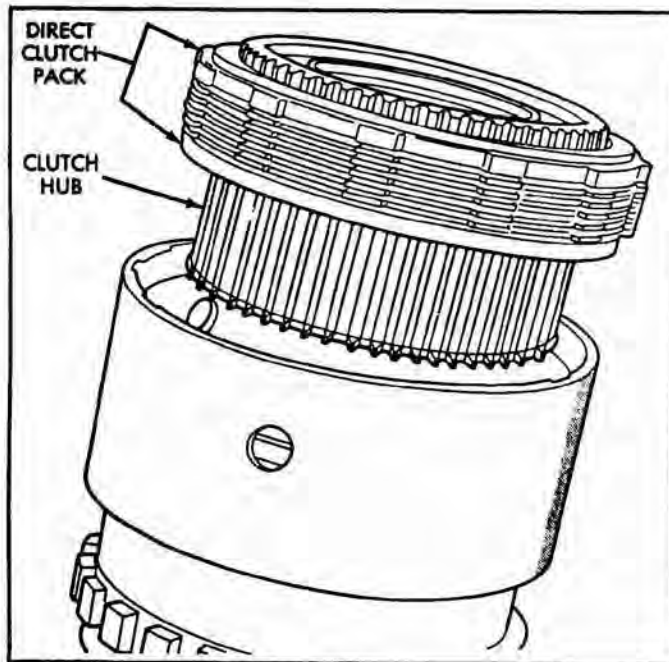

Figure 17
23. Install clutch hub and the direct clutch pack assembly on the direct clutch spring, and ensure that hub is started on sun gear splines. Refer to Figure 17.